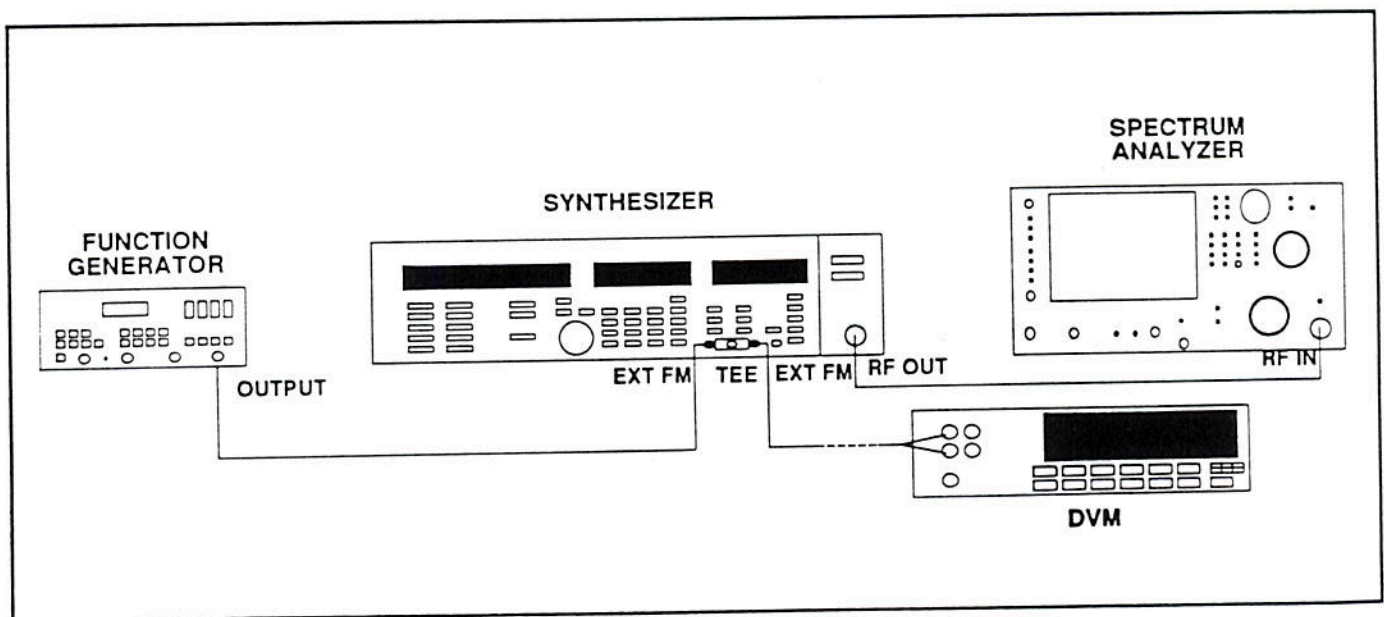

Figure 3-11. FM Sensitivity, Meter, and Flatness Calibration Test Setup
- a. **Test Setup.** Connect the equipment as shown in Figure 3-11 and turn the equipment on.
- a. *Test Setup.* Connect the equipment as was shown in Figure 3-11 and turn the equipment on.
a. Test Setup. Connect the equipment as was shown in Figure 3-11 and turn the equipment on.